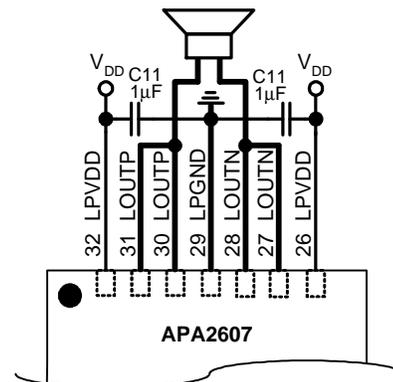

Figure 5. TQFN5x5-32 Land Pattern Recommendation
2. The output traces should be short, wide (>50mil) and symmetric, and this loop like the figure 5, should be as small as possible, (this loop is high slew rate and high current path).